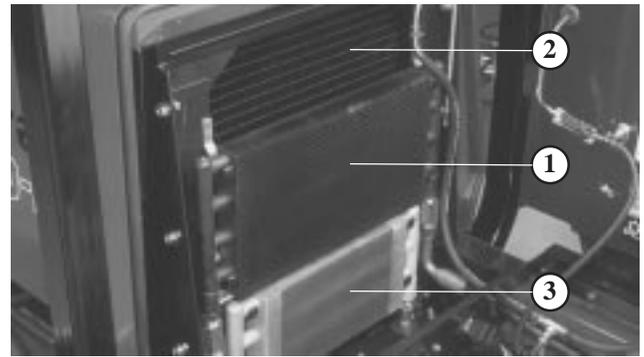

Figure 55
3. Slightly raise oil coolers and pivot forward (Fig. 55). Clean both sides of oil coolers and radiator area thoroughly with compressed air. Pivot oil coolers back into position.